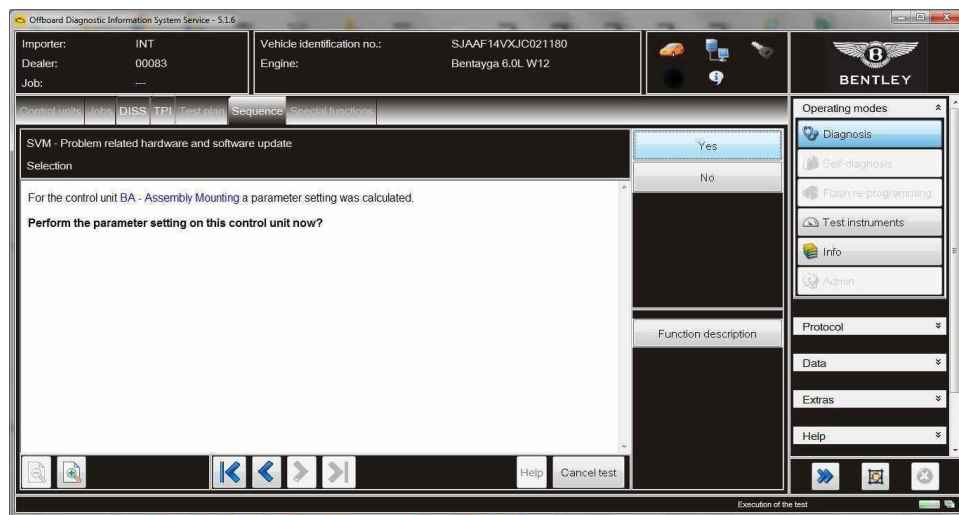

Figure 6
6. Once the software is updated, a parameter setting is required, select Yes (Figure 6).